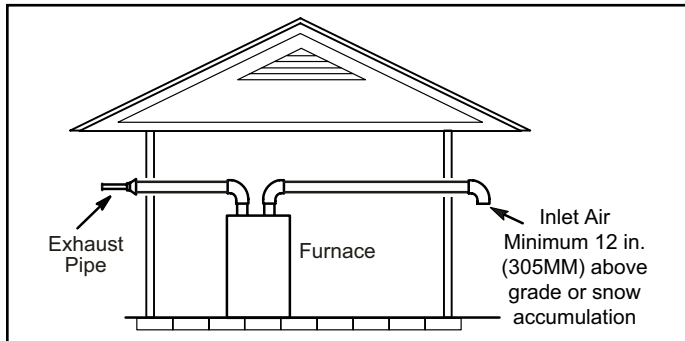
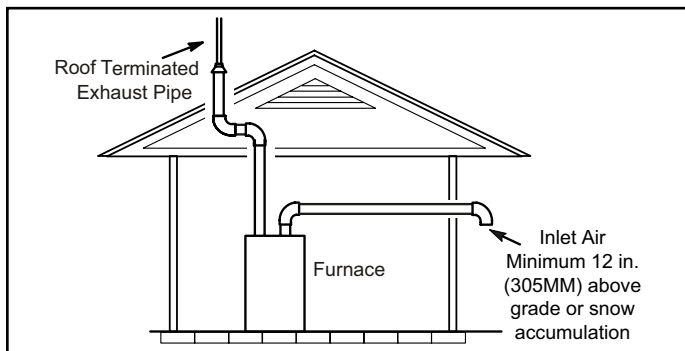

Figure 26. Exiting Exhaust and Intake Vent (no common pressure zone)
Figure 27. Exiting Exhaust and Intake Vent (no common pressure zone)
Intake and exhaust pipes may be routed either horizontally through an outside wall or vertically through the roof. In attic or closet installations, vertical termination through the roof is preferred. Figure 26 through Figure 34 show typical terminations.
1. Intake and exhaust terminations are not required to be in the same pressure zone. You may exit the intake on one side of the structure and the exhaust on another side (Figure 26). You may exit the exhaust out the roof and the intake out the side of the structure (Figure 27).